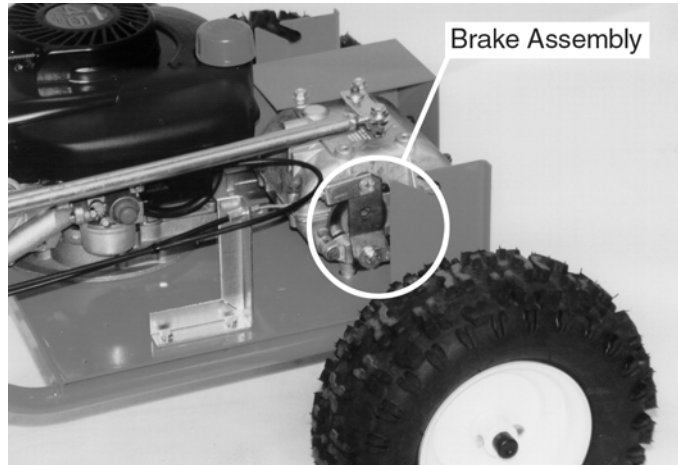
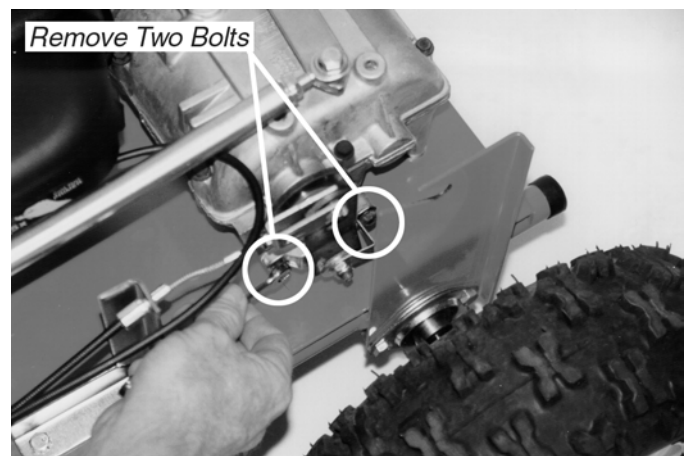
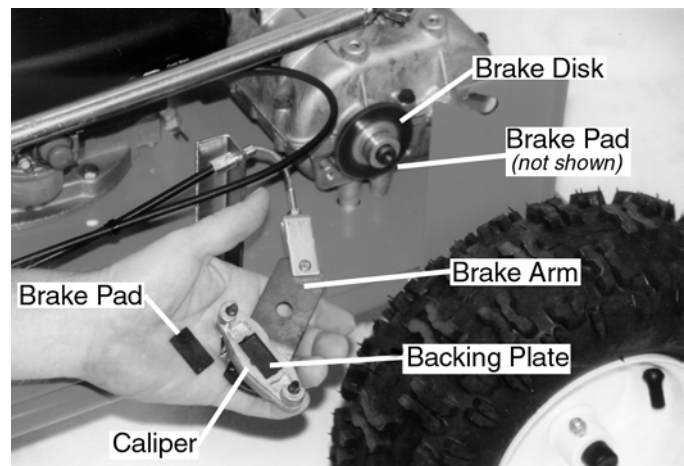

Figure 27
Figure 30
Figure 31
4. If the machine does move, turn the nut on the transaxle (*Figures 27 & 28*) 1/4 turn clockwise to tighten the brake. Repeat Steps 1-3 and readjust if needed.
If you can't get the parking brake to release, turn the nut on the transaxle (*Figures 27 & 28*) 1/4 turn counterclockwise to loosen the brake. Repeat Steps 1-3 and readjust if needed.
2. Locate the brake caliper at the right front of the machine (*Figures 27 & 30*). Remove the two mounting bolts on the caliper with a 3/8" wrench (*Figure 30*), then carefully remove the caliper (*Figure 31*).
3. Pull the brake disk off the spline shaft and remove the old brake pad from behind the disk (*Figure 31*). Replace it with one of the new pads, then reinstall the brake disk.